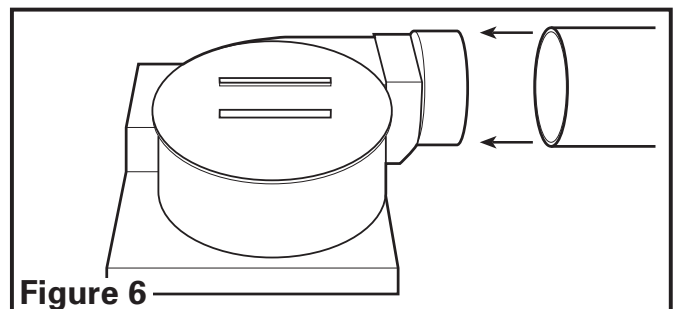

Figure 6
1. Connect the ducting to the fan's duct collar (Figure 6). Secure in place using tape or screw clamp. Always duct the fan to the outside through a wall or roof cap.